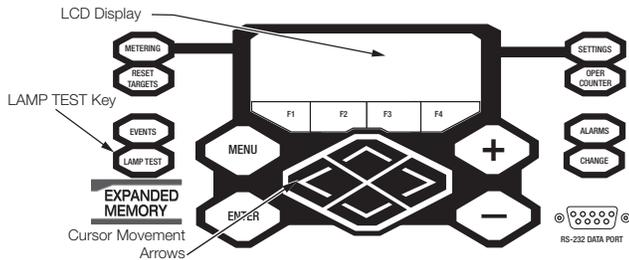

Figure 28. Lamp test button, LCD display, and cursor movement arrows
1. Verify operating status of all indicator lights by pressing and holding the LAMP TEST key for two seconds on the programming panel (**Figure 28**).
Note: Scroll through the LCD display messages by pressing the \uparrow and \downarrow cursor movement arrows underneath the LCD display on the programming panel (**Figure 28**).